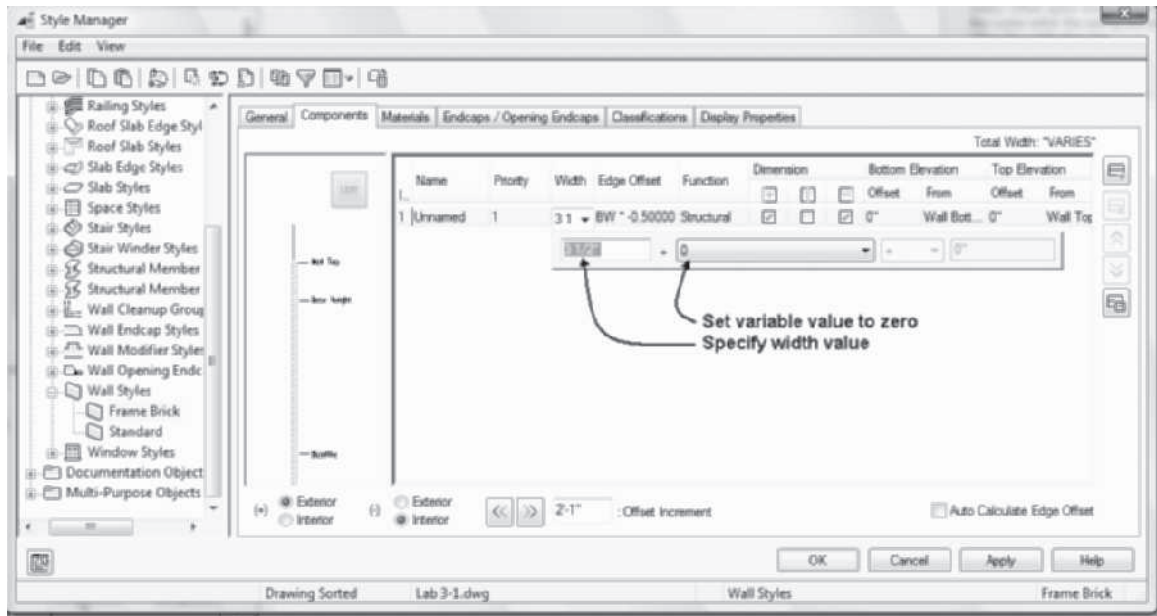

FIGURE 3.36 Creating a new style in the Style Manager
4. Select the **Wall Styles** category in the left pane, as shown in Figure 3.36, right-click, and choose **New** from the shortcut menu. Overtyping **Frame Brick** as the name of the new wall style.
9. Click in the **Width** column and select the arrow to expand the **Width** field. Set the fixed value to **3 1/2 [89]** and variable value to **0** as shown in Figure 3.36.